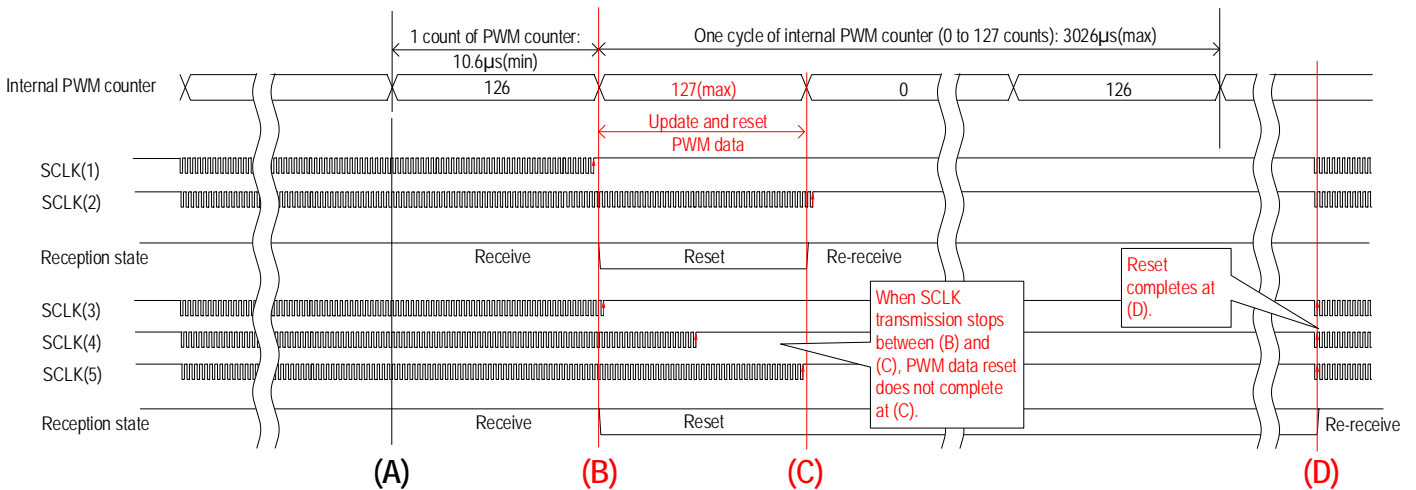
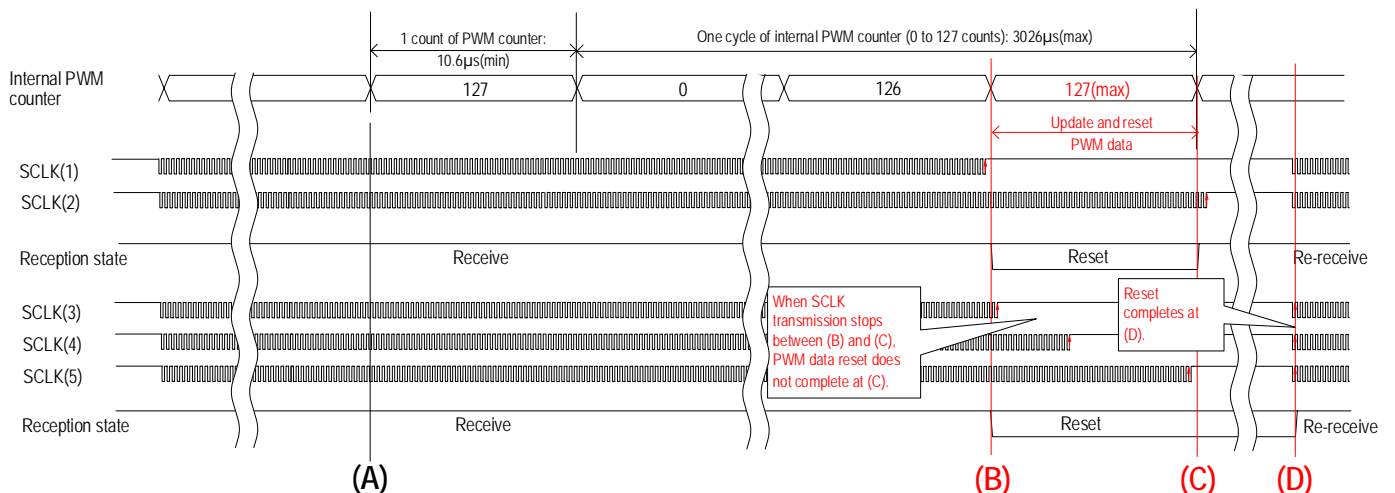

Figure 4-16 Relation of SCLK and PWM counter: 127th PWM counter timing comes earlier (2-wire input)
Figure 4-17 Relation of SCLK and PWM counter: 127th PWM counter timing comes later (2-wire input)
Occurrence of errata depends on the PWM counter timing. Figure 4-16 and the figure 4-17 show the timing charts, where errata do not occur (charts of SCLK(1) and (2)) and occur (charts of SCLK(3), (4), and (5)). Figure 4-16 shows the example when 127th PWM counter timing comes earlier, and the figure 4-17 shows when it comes later.